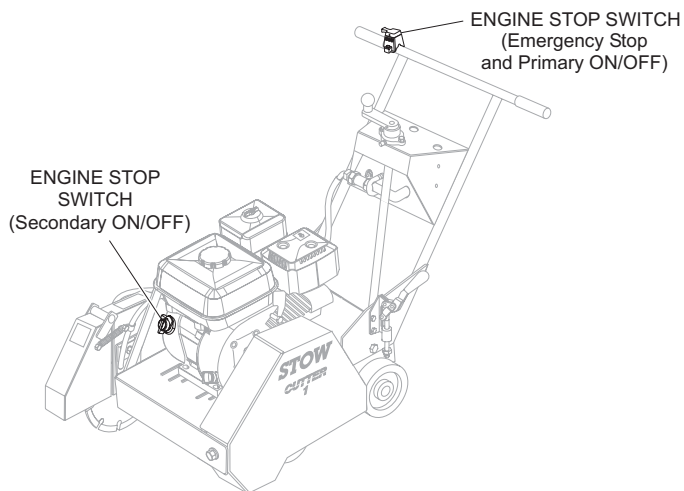
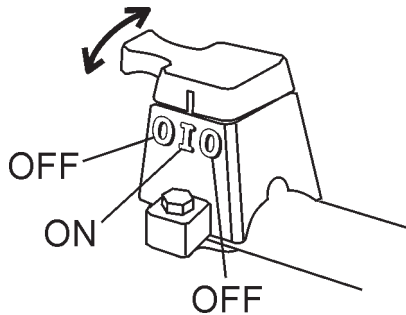

Figure 14. Engine Stop Switches
Figure 18. Engine Stop Switch (Handlebar)
The Engine Stop Switch located on the handlebar (Figure 14) serves both as an Emergency Engine Shut-Off and as the primary ON/OFF switch. This allows the operator to shutdown the saw safely away from moving parts.
4. Place the **ENGINE ON/OFF switch** located on the **ENGINE** (Figure 18) in the "ON" position. Place the **ENGINE ON/OFF switch** located on the **HANDLEBARS** (Figure 14) in the "ON" (center) position.
The Engine Stop Switch located on the handlebar (Figure 18) serves both as an Emergency Engine Shut-Off and as the primary ON/OFF switch. This allows the operator to shutdown the saw safely away from moving parts.